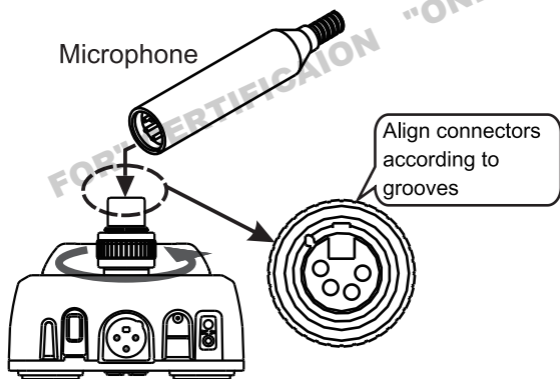

Fig. 16
2. Align the connectors and insert the microphone properly and secure tightly by turning counterclockwise, See Fig. 16.